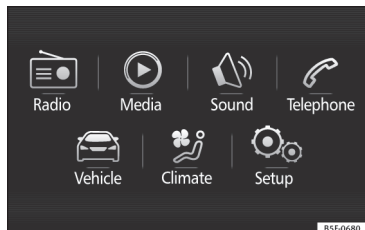

Fig. 40 Easy Connect: Main menu
- Press the system's **(MENU)** button and then the function button **(Vehicle)** » Fig. 40, or the system's **(CAR)** button to go to the menu **Vehicle** » Fig. 41.